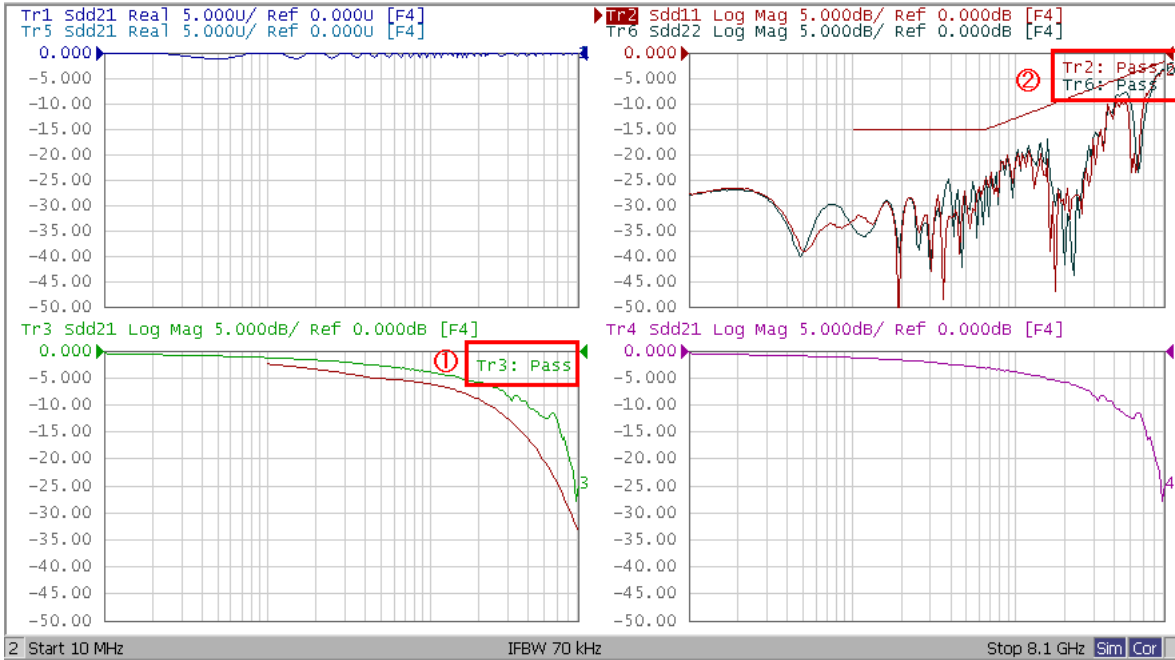

Figure 5-4: Frequency Domain Measurement Example
Read Pass/Fail signs on Trace 3 (item 1 in Figure 5-4).
Read Pass/Fail signs on Trace 3. (item 2 in Figure 5-4).